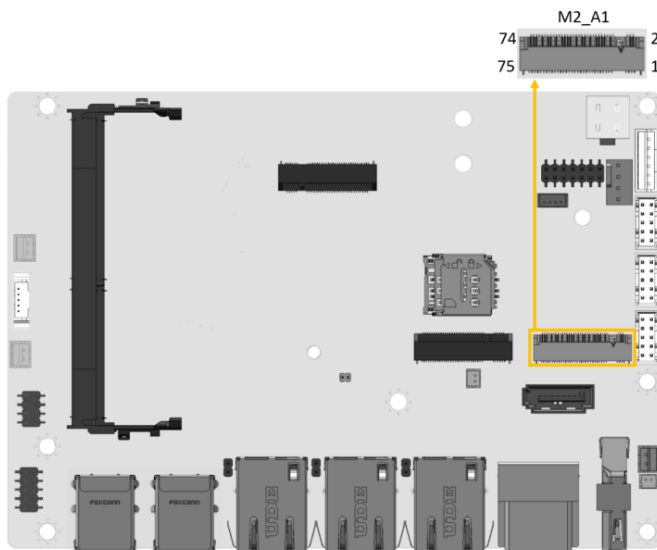

Figure 4-9: M.2 A-key Slot Location
- CN Location:** See **Figure 4-9**